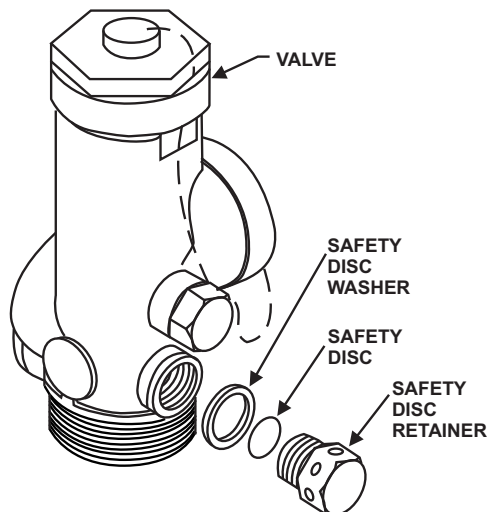

Figure 6-5. Safety Disc Replacement
Whenever the valve is rebuilt, the Safety Disc Assembly must be replaced. Refer to Figure 6-5.
1. Remove the safety disc retainer including safety disc and safety disc washer from the cylinder body. See Figure 6-5. Discard the safety disc and washer.